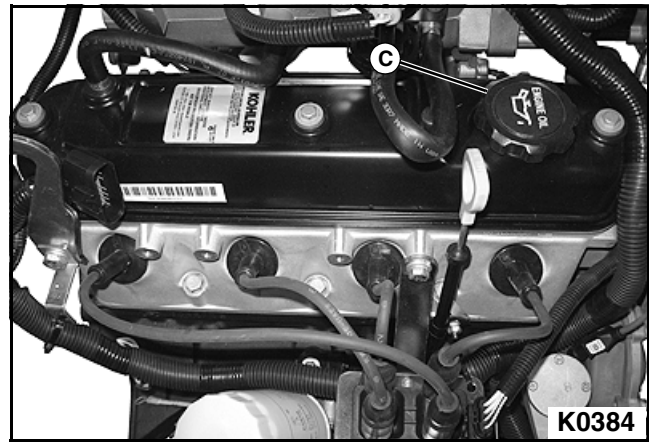

Figure 5-13
6. If the oil level is below L, check for leaks. If no leaks are found, open the oil fill cap (C). Wipe the oil fill cap clean, and add oil up to the F mark. See Figure 5-13.